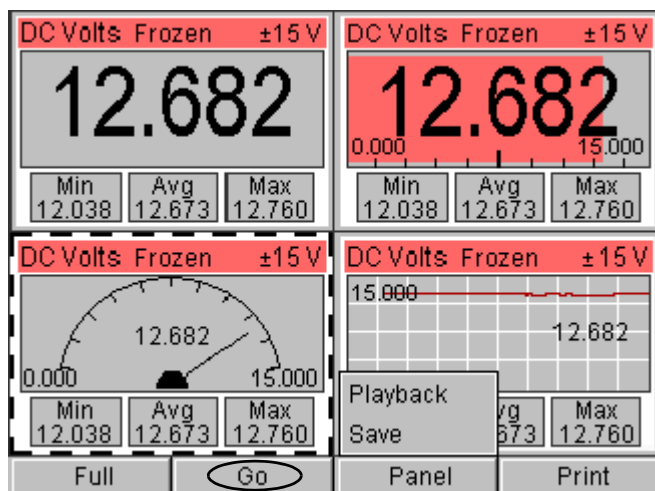

Figure 6.14: DMM Screen - Freeze Function
- 2 Press the **Freeze** function key. This stops all readings and "freezes" the display for all the panels. The word "Frozen" flashes at the top of each panel. In addition, the Function keys at the bottom of the screen change and provide options for printing, saving, and replaying the readings (see Figure 6.14 on page 40).
- 4 When finished, press the **Go** function key to restart the live readings (see Figure 6.14).